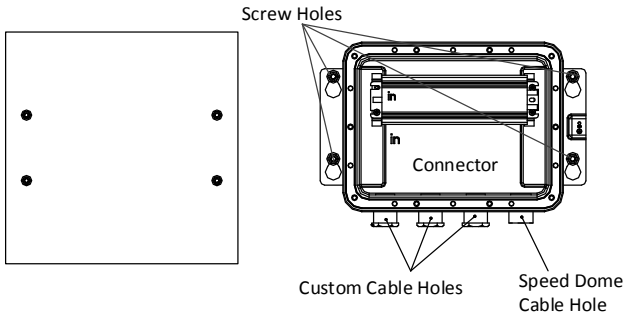

Figure 2-12 Install the Gang Box Type I
- 1) Drill 4 φ9 screw holes for expansion screws as shown in Figure 2-12.